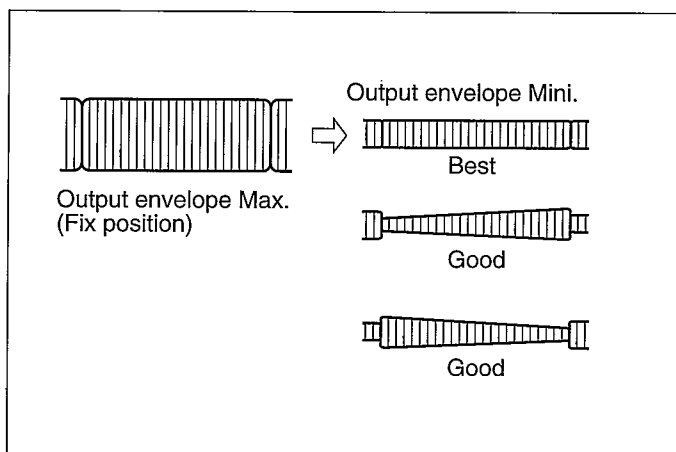

Fig. M9
- (7) Keep pressing the tracking up/down (\wedge or \vee) buttons on the remote controller unit. The output envelope should vary nearly parallel with other condition as shown in Fig. M9.
- (8) Set the tracking control into center fix position by pressing the tracking up/down (\wedge and \vee) simultaneously and adjust for maximum RF envelope, whilst being as flat as possible.